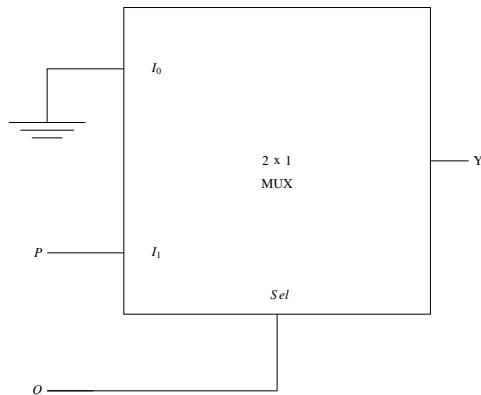

Fig. 3.23
41. In the circuit shown in Fig. 3.23,  $P$  and  $Q$  are the inputs. The logical function realized by the circuit is \_\_\_\_\_. (GATE EC 2023)